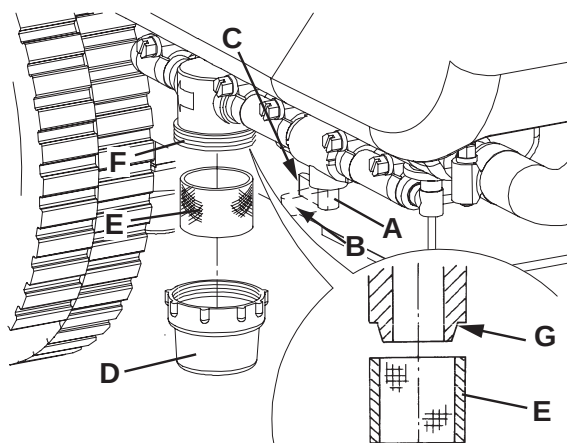

Figure 8
2. Turn the ignition key (80) to "0" position.
3. Close the solution tap (A, Fig. 8) under the machine, behind the right rear wheel. The tap (A) is closed when it is on the position (B) and it is open when it is on the position (C).
4. Remove the transparent cover (D), then remove the filter strainer (E). Clean and install them on the support (F).